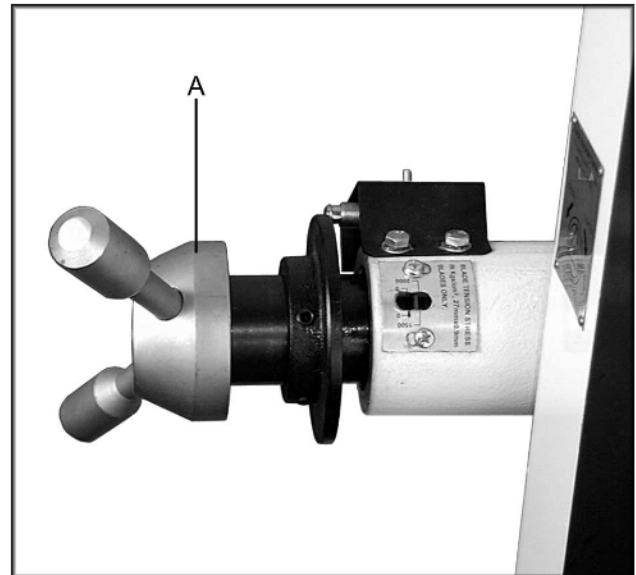

Fig. 3
- Slide the tensioning handle (A, Fig.3) onto the shaft and tighten the hex socket set screw.